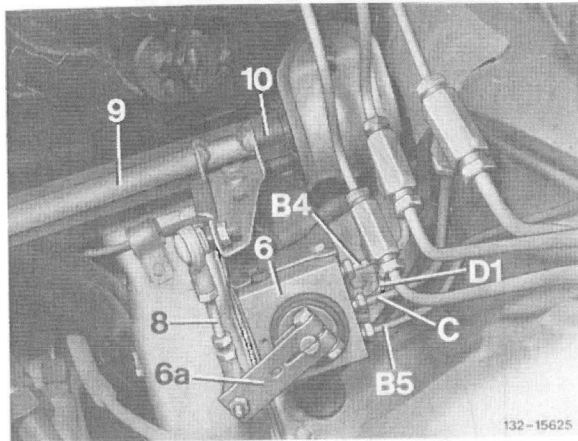
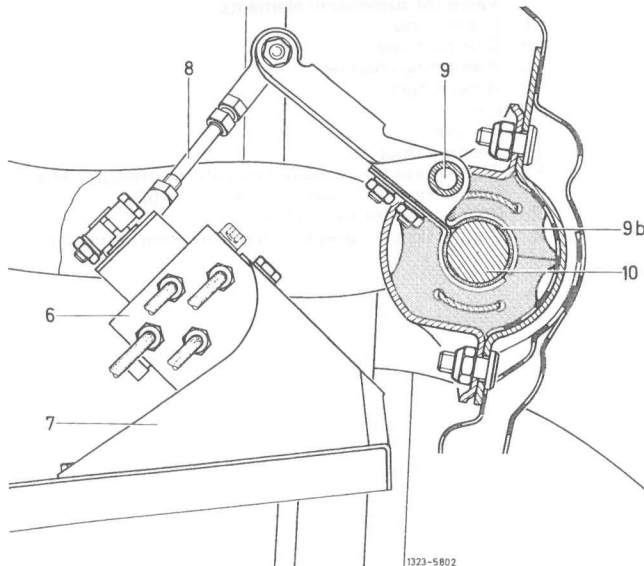

Fig. 143
Fig. 144
The level controller for the front axle is located in engine compartment (Fig. 143). It is actuated via connecting shaft (9) by torsion bar (Fig. 144).